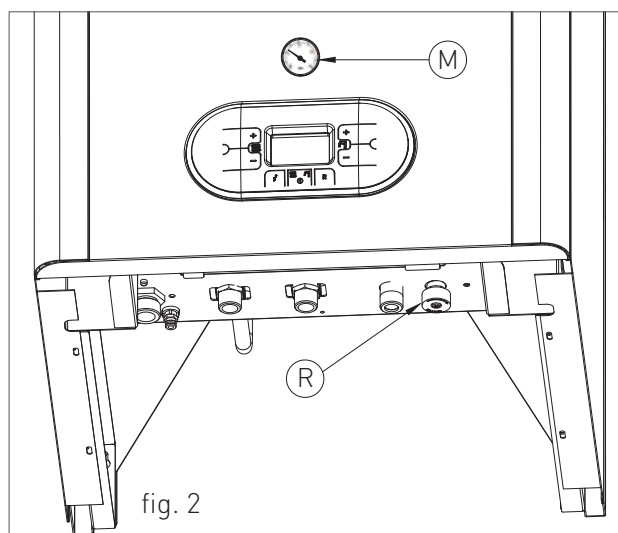

fig. 2
For machine positioning, proceed as follows (see fig. 2):
3. open the feeding tap "R" (fig. 2);
5. use pressure gauge "M" (fig. 2) to make sure that the system pressure reaches 1.2 bar (fig. 4);
6. after performing this operation, make sure that the loading tap "R" (fig. 2) is properly closed.